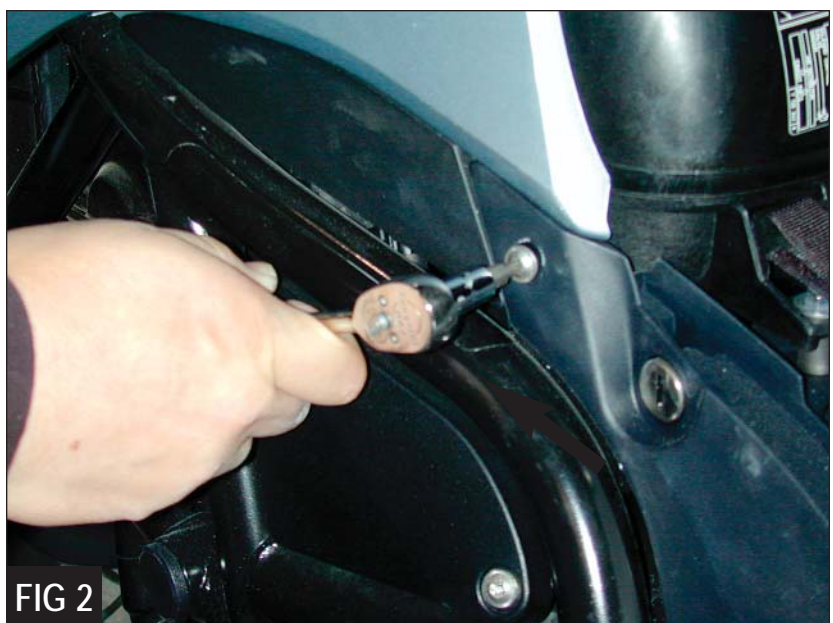

FIG 2
3. Remove the bolt on the left side of the gas tank panel (*Figure 2*).